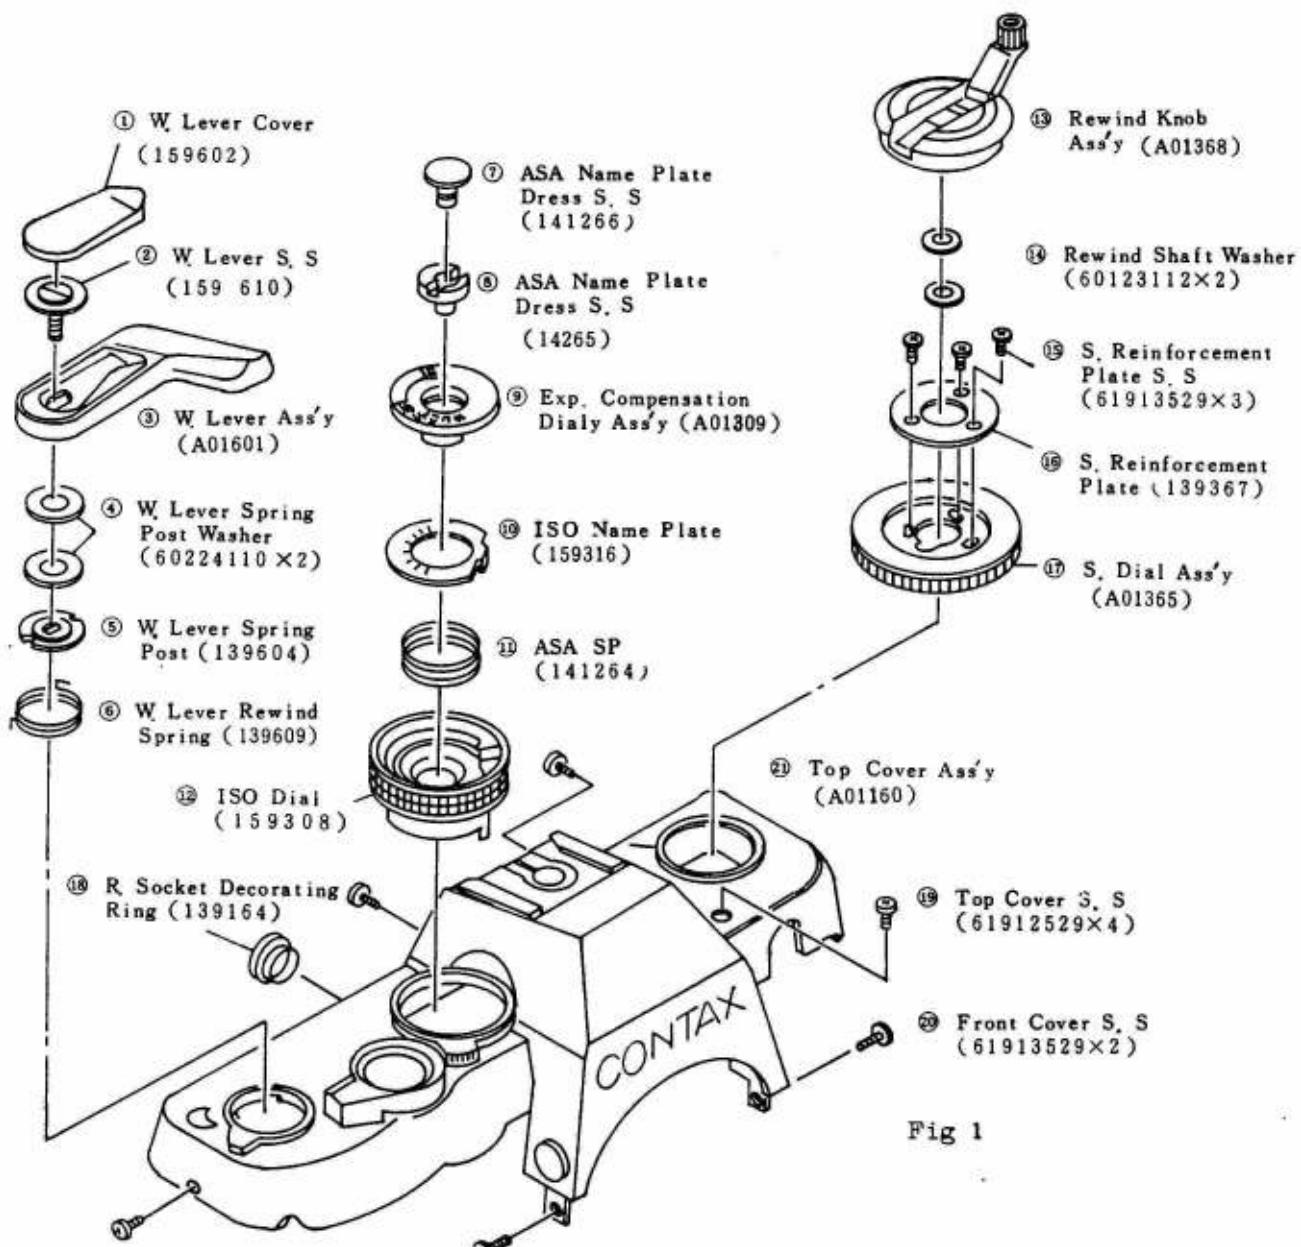

Fig 1
(1) Top Cover;
Remove the respective parts ① ~ ⑳ shown in (Fig 1) in numerical order.